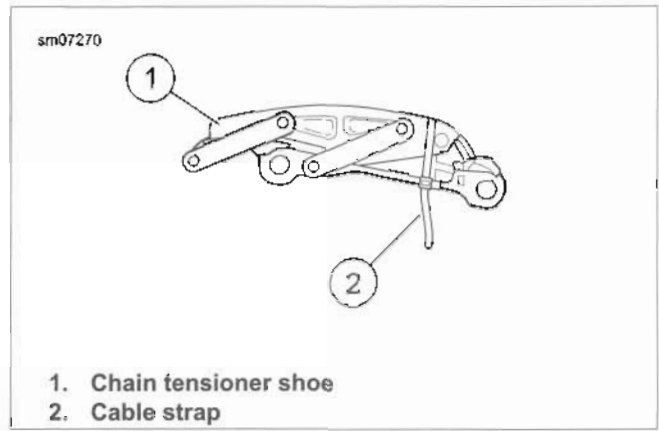

Figure 5-17. Securing Chain Tensioner
18. See Figure 5-17. Push shoe (1) down until it contacts wedge. Keep tension on shoe so wedge stays in place.
19. Install cable strap (2) as shown. Exposed portion below cover will flag need for removal before cover installation.